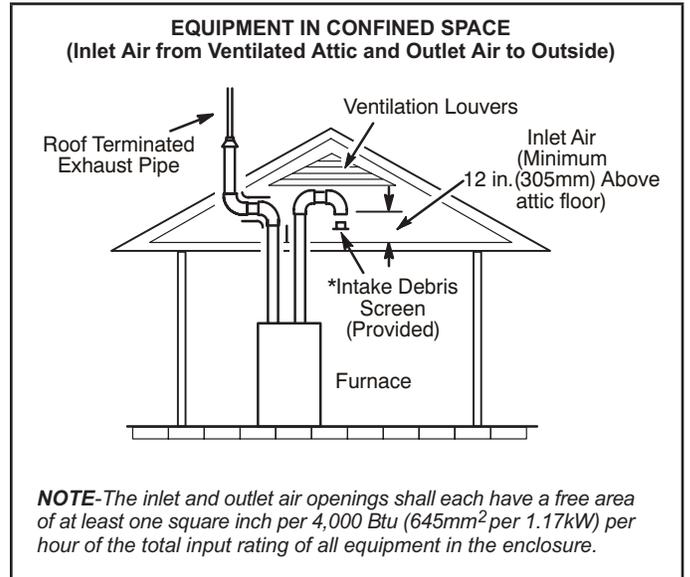
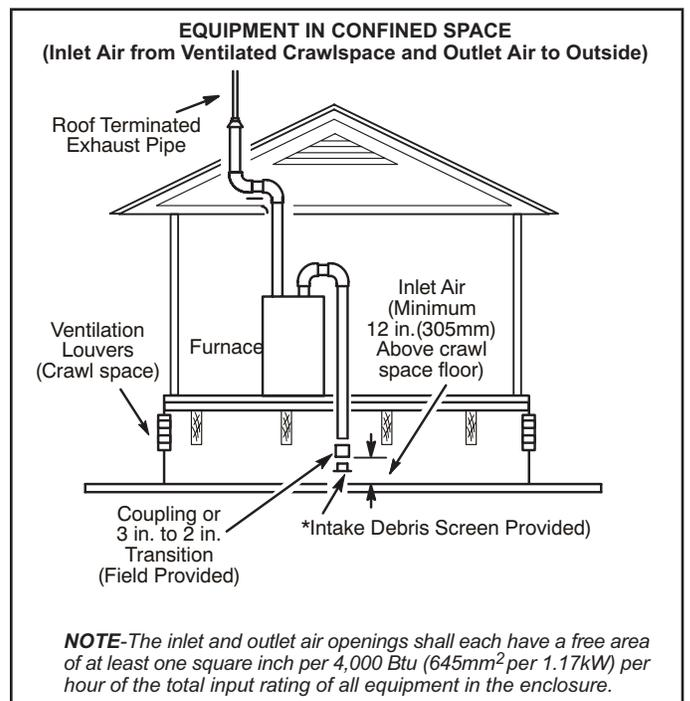

FIGURE 28
FIGURE 29
- 2 - If intake air is drawn from a ventilated attic (FIGURE 28) or ventilated crawlspace (FIGURE 29) the exhaust vent length must not exceed those listed in TABLE 14. If 3" diameter pipe is used, reduce to 2" diameter pipe at the termination point to accommodate the debris screen.